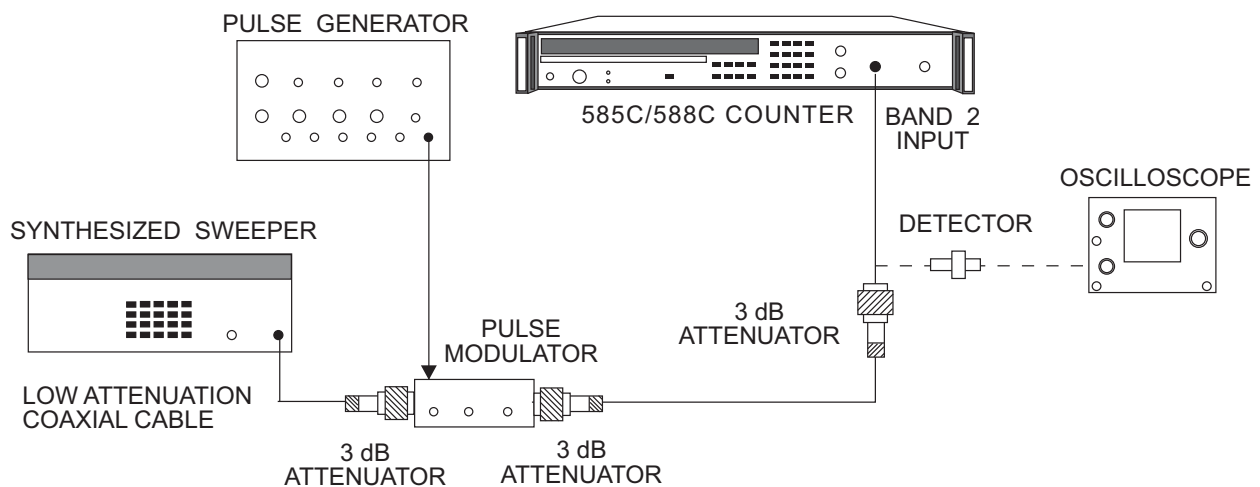

Figure 6-18. Pulse Width Accuracy Test Setup
1. Connect the equipment as shown in Figure 6-18. The 3 dB attenuators should be at the IN and OUT ports of the pulse modulator and the input to the counter. Turn the equipment on.